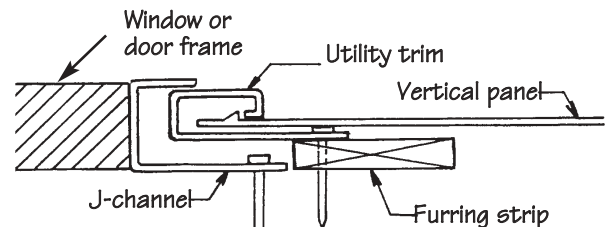

Figure 59.
- If the panel is cut on the flat surface, install utility trim, backed by furring, into the J-channel. The flat surface of the vertical siding should be snap lock punched and fitted into the utility trim (Fig. 59). The panel is further secured above and below the windows and above the door when the panel is fastened in place.